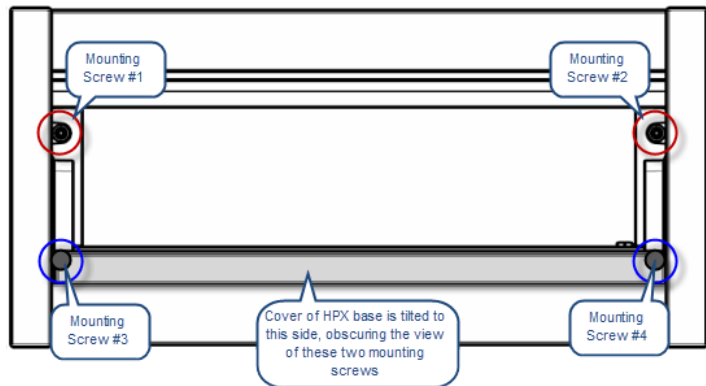
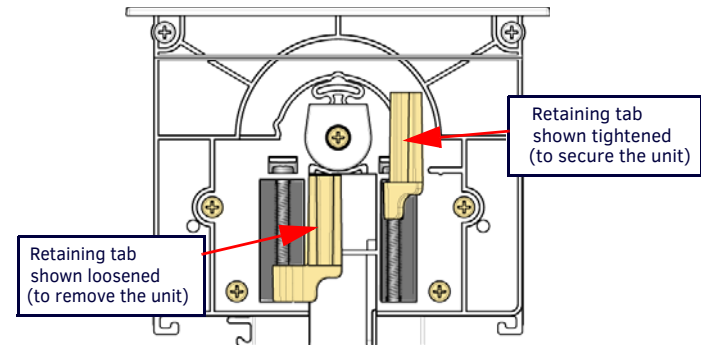

FIG. 6 HPX BASE ASSEMBLY (SHOWN MOUNTED) - MOUNTING SCREWS LOCATIONS
FIG. 7 HPX BASE ASSEMBLY (SHOWN MOUNTED) - MOUNTING SCREWS LOCATIONS
- Tighten the four mounting screws (FIG. 6) located inside and at each end of the HPX base assembly, to rotate the retaining tabs (FIG. 7) into locking position under the mounting surface.
- Loosen the four mounting screws located inside and at each end of the HPX base assembly (FIG. 6), in order to rotate the retaining tabs from under the mounting surface.
- Once the retaining tabs have been rotated out from under the mounting surface, the HPX assembly can be lifted away from the mounting surface. FIG. 7 provides a cutaway view of the End Cap, showing the retaining tabs highlighted in both the loose position and the tightened (secure) position.